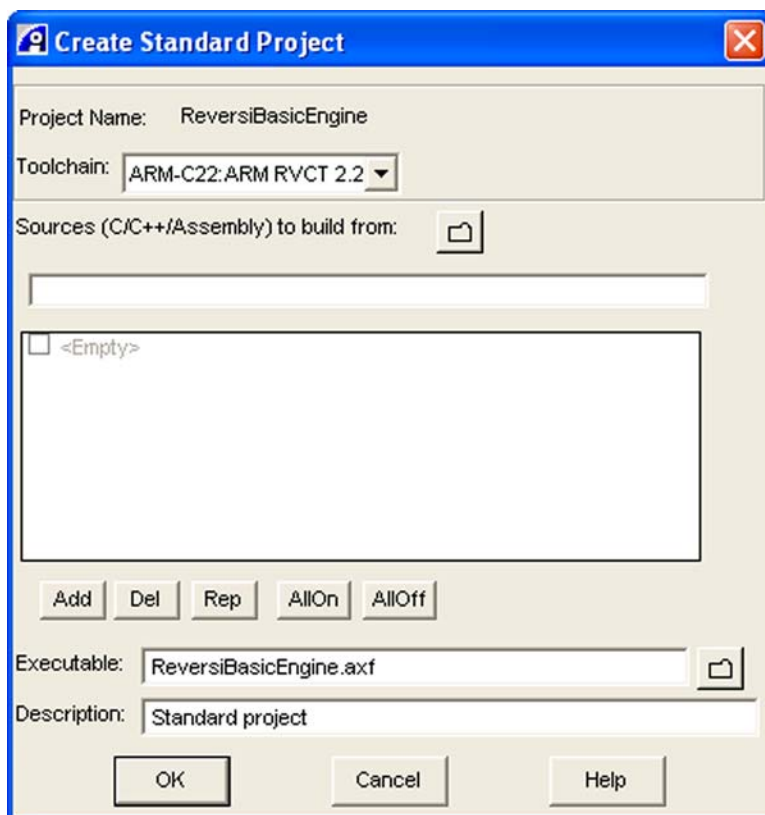

Figure 5-54. RealView Create Standard Project Dialog Box
5. Ensure the **Standard Project** radio button is selected, and enter “ReversiBasicEngine” in the **Project Name** field. Click **OK**. This displays the Create Standard Project dialog box, shown in Figure 5-54.